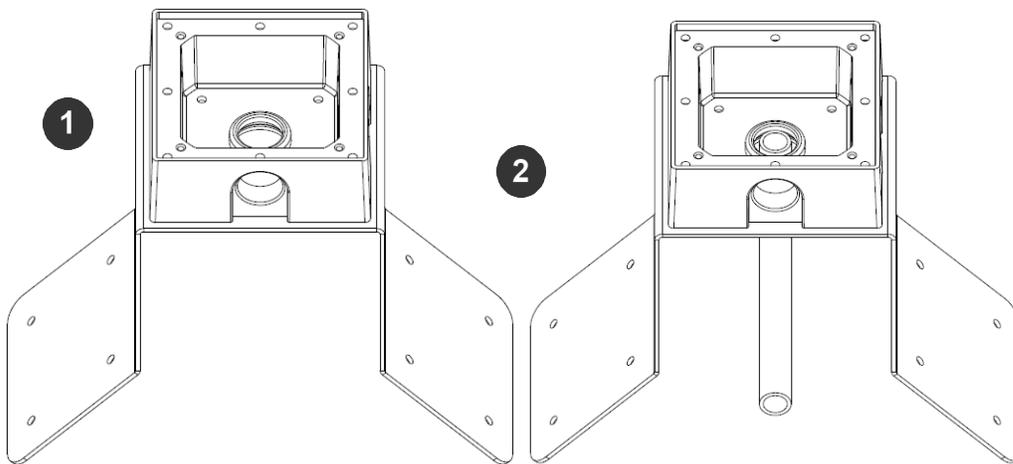

Figure 16: Attach conduit to the junction box adapter on the AV-SWMJB wall mount
3. Attach the Junction Box Adapter from the AV-SWMJB (Wall Mount Adapter) to the AV-CRMA (Corner Mount Adapter) (Figure 16).
4. Remove the conduit plug on the junction box adapter and connect  $\frac{3}{4}$ " NPT conduit to the junction box adapter (Figure 16).